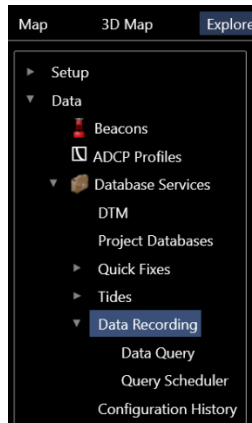
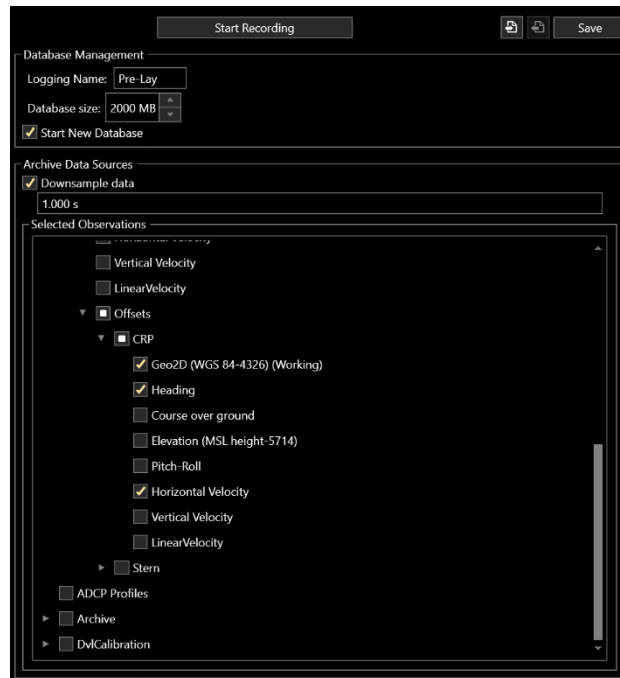

FIGURE 14-64 DATA RECORDING - EXPLORER
FIGURE 14-65 DATA RECORDING - CONFIGURE DATA RECORDING
1. Open the Explorer window and navigate the tree to select **Data Recording** (see Figure 14-64) this will open the data recording configuration dialog (see Figure 14-65)
2. In **Database Management** (see Figure 14-65)
1. Open the Explorer window and navigate the tree to select **Data Recording** (see Figure 14-65)